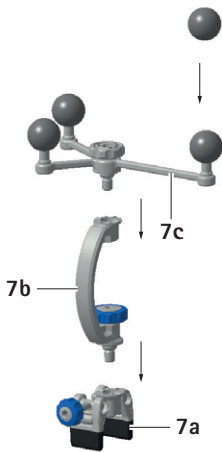

Fig. 18
- ▶ Assemble the Aesculap universal navigation clamp 7 (SZ096R) (consisting of Brainlab components 7a (55113), 7b (55016) and 7c (41799)) according to the Brainlab instrument user guide, see Fig. 18.